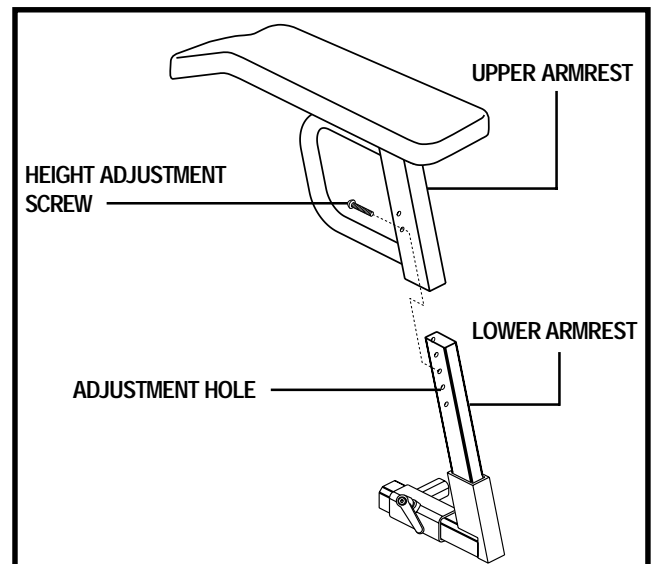

Figure 14. Armrest Height Adjustment
1. Remove the height adjustment screw from the armrest. See figure 14.